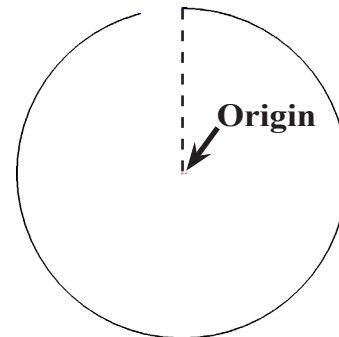

Fig. 2
Step 3. Click **Centerpoint Arc**  (S) in the **Arc flyout**  on the Sketch toolbar.
Step 4. Draw a slightly open arc starting from the Origin , **Fig. 2**.
To draw the arc, click the Origin to place the center of the arc. Start the first endpoint directly above the Origin, then swing the arc to the right around counterclockwise. Click to place the second endpoint leaving a small gap in the arc, **Fig. 2**.